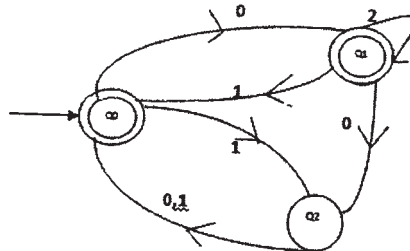

Fig2
b) Make use of Arden's theorem to determine the regular expression for the finite automata shown in **Fig 2**. [6]